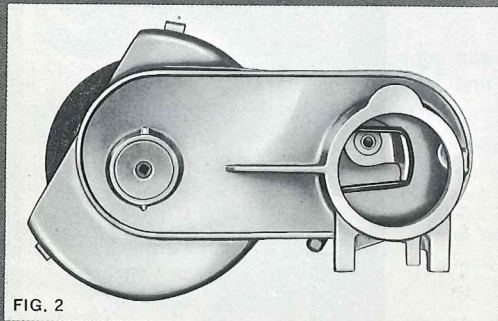

FIG. 2
STEP 2: Turn the belt lifter lever to the "OFF" position thus extending the belt (figure 2). The unit is now ready for attachment to the motor unit.